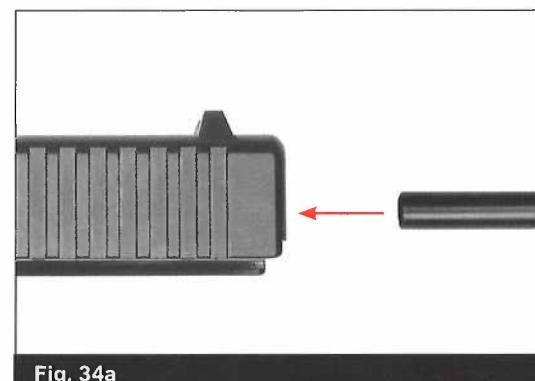

Fig. 34a
- The Firing pin channel liner is located inside the firing pin channel and normally should remain in the channel. Should it separate during cleaning and it is not damaged, simply insert with beveled edge toward breech. If it is damaged replace it with a new channel liner. Removal is not recommended. However, if removal is needed use a 5/16 inch bolt. (Fig. 34a)